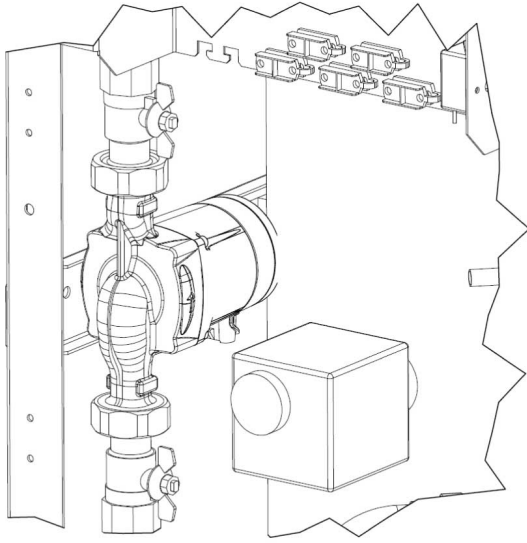

Fig. 1.4: Screw-in heater completely installed
- 4) Install the CEHK screw-in heater. When threading the heater through the sleeve, press the heating pipes together slightly with your hand (see Fig. 1.4 on page 4).